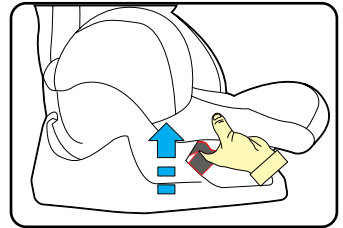

Figure 1
Step 1: At the front of the restraint is a GREY* lever. Lift the lever to recline. (refer figure 1) *Colour may vary